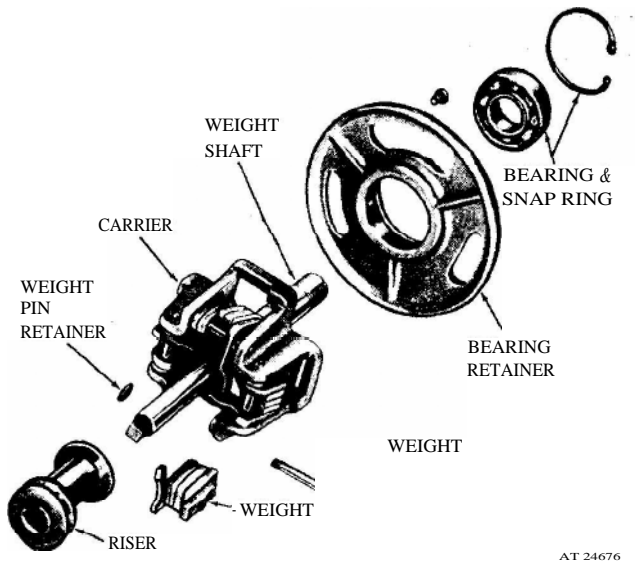

Figure 6. Governor weight details and relative location of parts.
2. Press the governor weight shaft bearing into the bearing retainer by pressing on the outer race of the bearing (fig. 6).